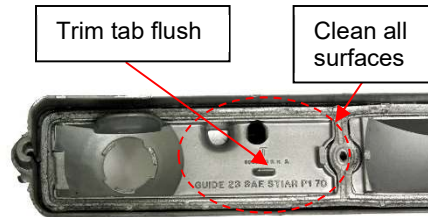

Figure 1
2. Clean the inner surfaces of the inboard taillight housing light cell. (See Figure 1)